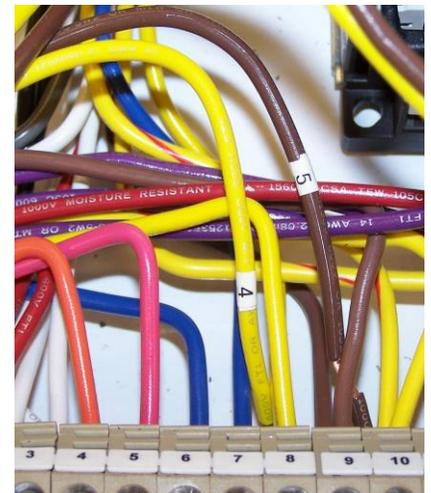

Figure 10
5. The Yellow wire labeled #4 connects to "FORWARD" terminal strip position #15 and the Brown wire labeled #5 connects to "REVERSE" terminal strip position #16 (Figure 10).